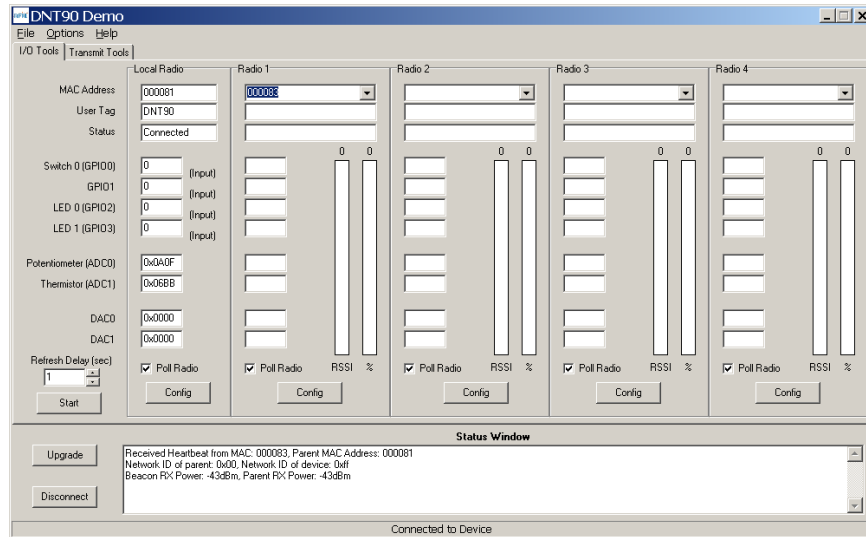

Figure 7
9. At this point the Demo will collect data from the Base, filling in the *Local Radio* column on the Demo window as shown in Figure 7. Next power up the Remote using a wall-plug power supply. The Remote will transmit a “heartbeat” message on power up as shown in the *Status Window*. Click on the drop-down box at the top of the *Radio 1* column and load the *MAC Address* for the Remote from the heartbeat message. Next press the *Start* button using the default 1 second *Refresh Delay*.